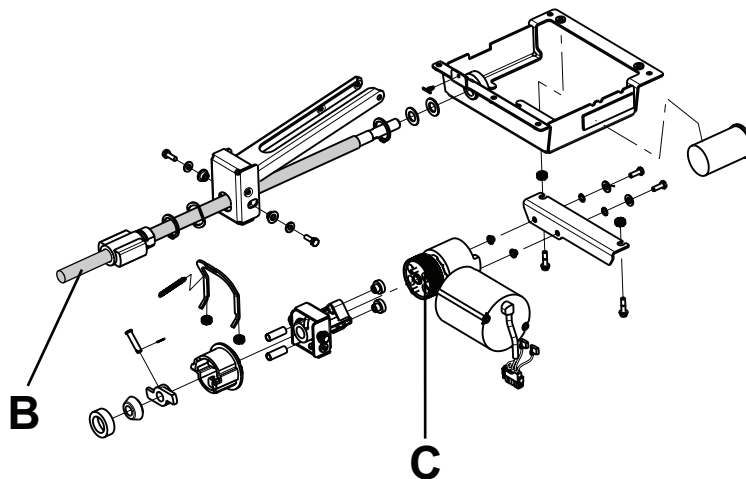

Figure 4 – Fowler drive assembly
1. Apply Mobile #28 grease to the entire length of the ball screw (B) (Figure 4).
2. If dry, apply a thin film layer of Syn-Tech-NS-18191-G grease (3000-200-700) to the outside of the brake spring (C) (Figure 4).